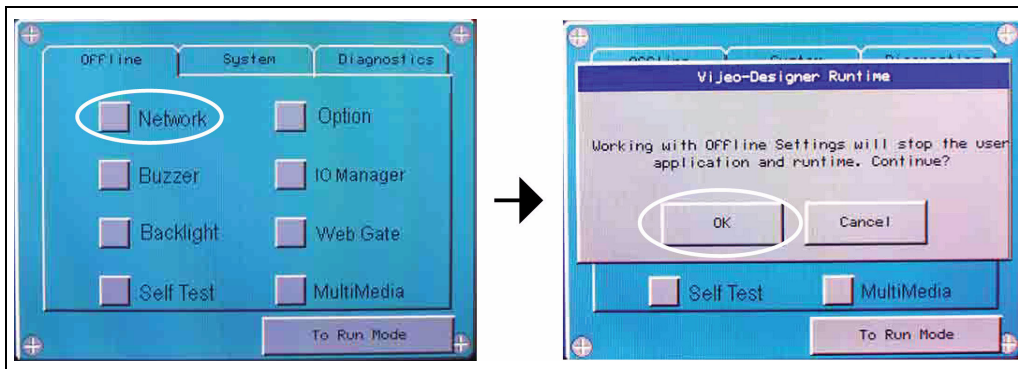

Figure 9Y
4. Press **“OK”** to the working offline settings pop-up screen. (See Figure 9Y.)